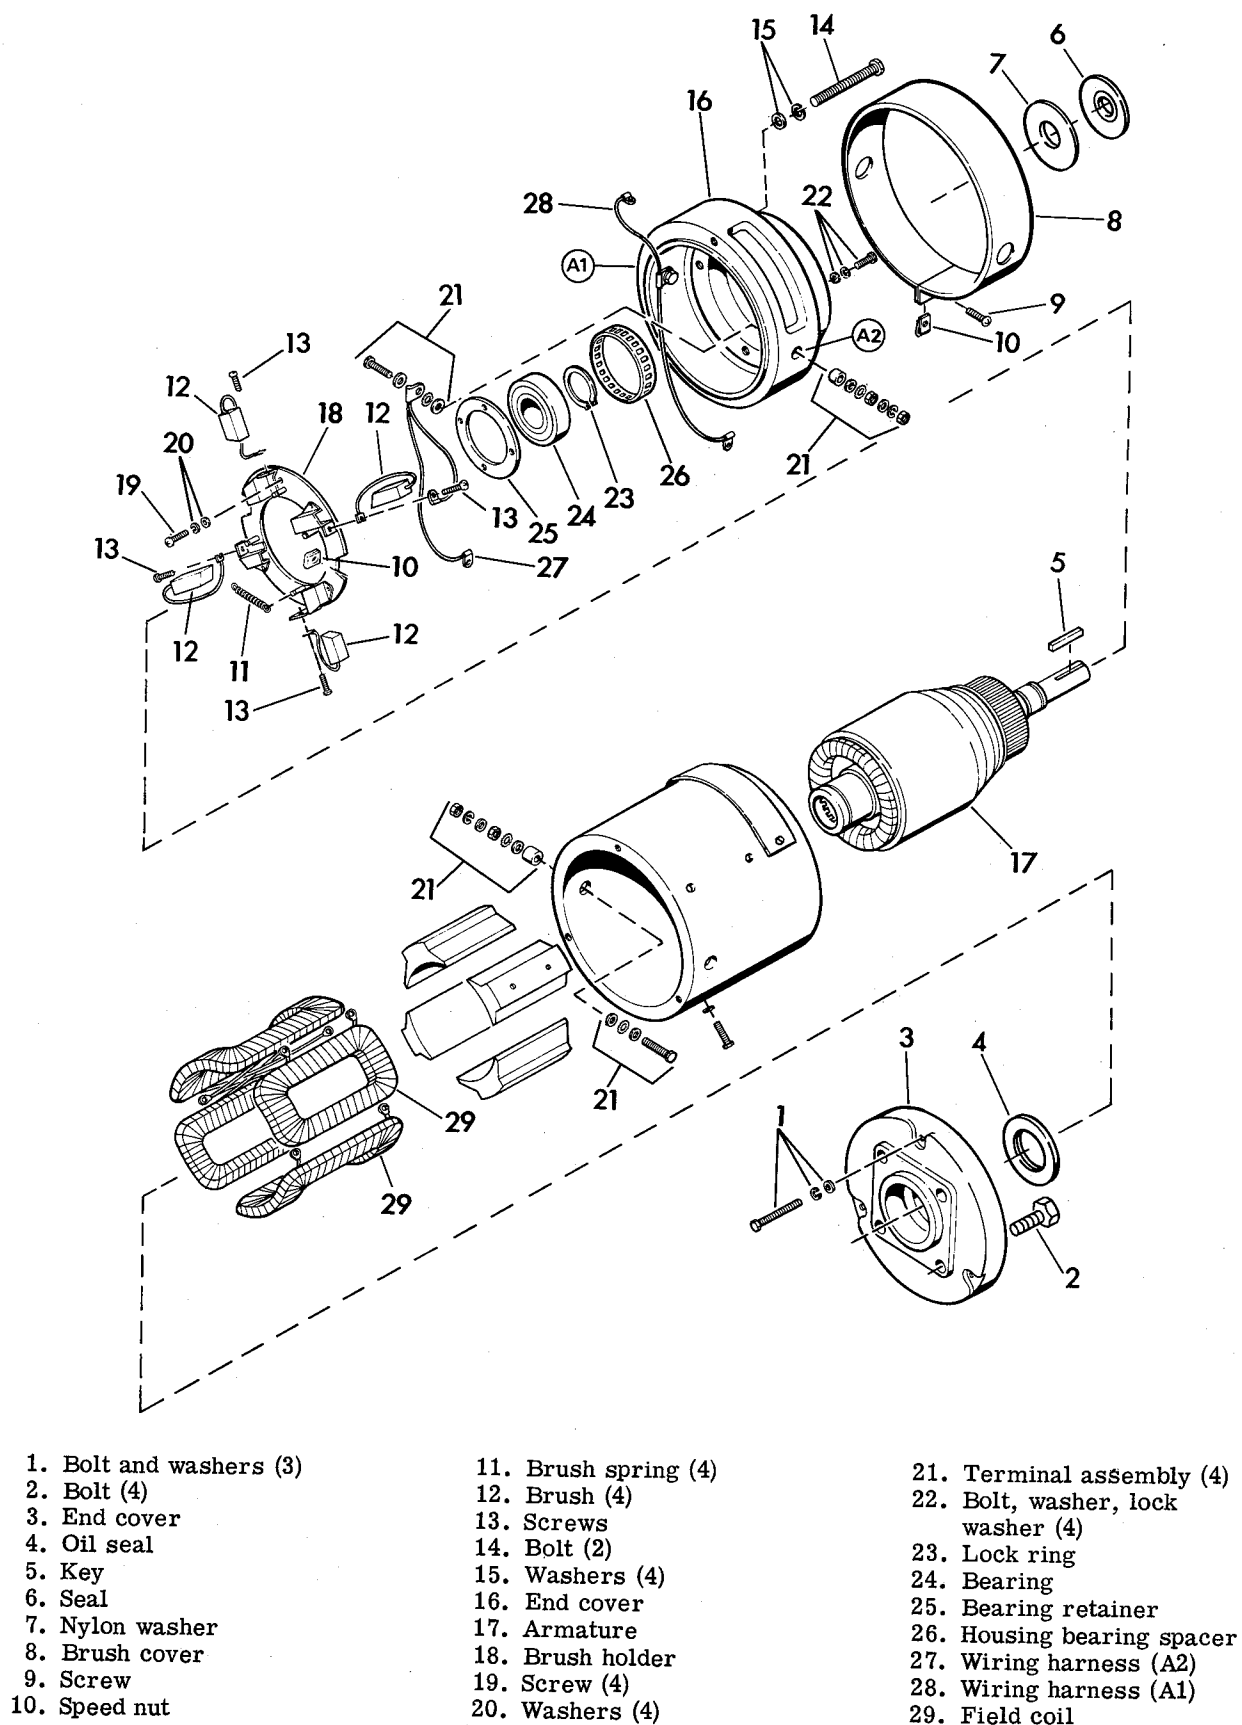

Figure 5-12. AMF Traction Motor - Exploded View
DISASSEMBLING AMF TRACTION MOTOR (Figure 5-12)
Remove old bearing with a claw puller. On AMF motors, lock ring (23), Figure 5-12, must be removed first.